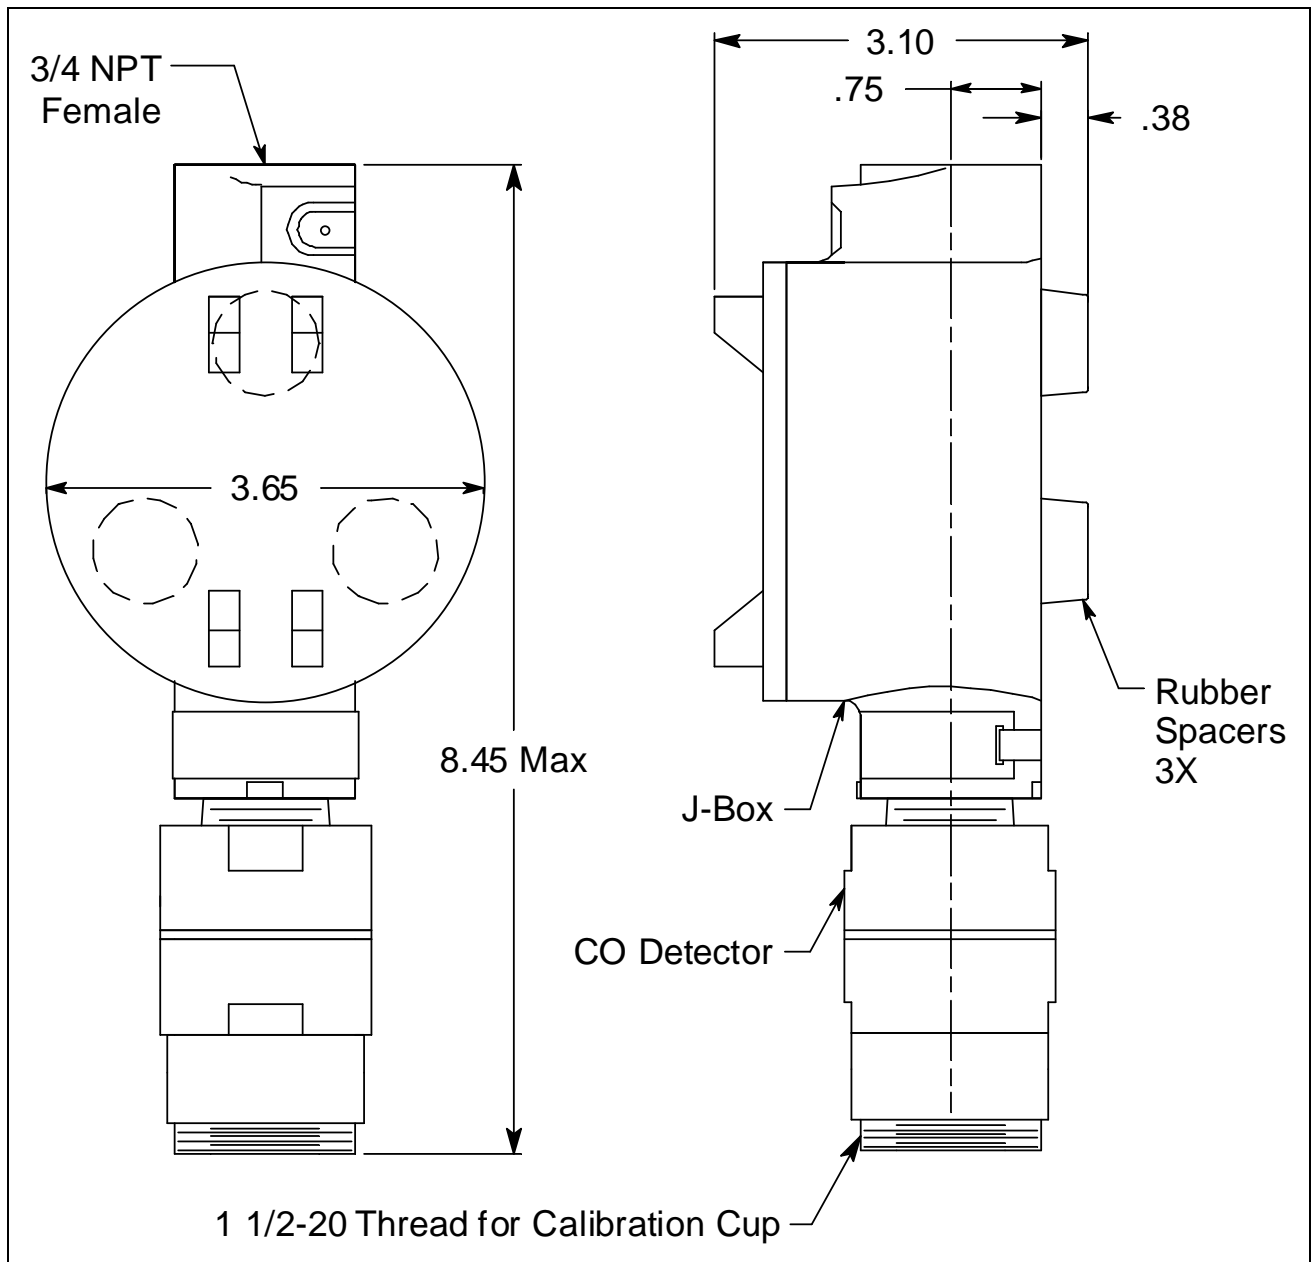

Figure 3: Mounting the CO Transmitter
2. At the monitoring site you select, hang or mount the junction box with the detector facing down (see Figure 3).